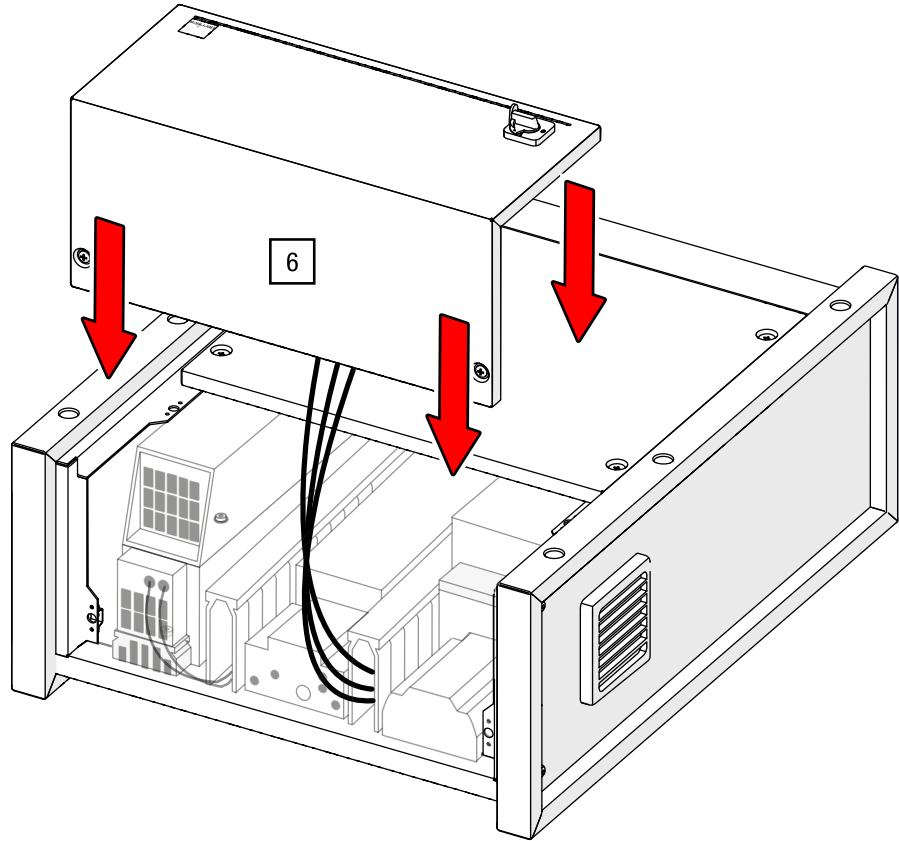

Fig. 18: Insert terminal (control model may differ)
6. Place the control panel back on the control housing (see Fig. 18).